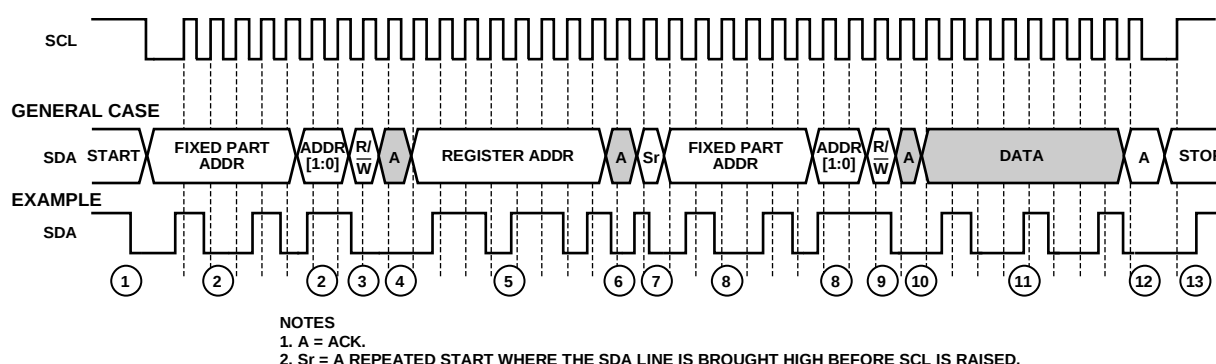

Figure 32. I²C Read Diagram
To read data from the ADN4600 register set, a microcontroller (or any other I²C master) needs to send the appropriate control signals to the ADN4600 slave device. Use the following steps, where the signals are controlled by the I²C master unless otherwise specified. A diagram of the procedure is shown in Figure 32.
- To read data from the ADN4600 register set, a microcontroller (or any other I²C master) needs to send the appropriate control signals to the ADN4600 slave device. Use the following steps, where the signals are controlled by the I²C master unless otherwise specified. A diagram of the procedure is shown in Figure 32.
3. Send the write indicator bit (0).
9. Send the read indicator bit (1).
- In Figure 32, the ADN4600 read process is shown. The SCL signal is shown, along with a general read operation and a specific example. In the example, Data 0x49 is read from Register Address 0x6D of an ADN4600 part with a slave address of 0x4. The part address is seven bits wide. The upper five bits of the slave address are internally set to b10010. The lower two bits are controlled by the ADDR[1:0] pins. In this example, the bits controlled by the ADDR[1:0] pins are set to b11. In Figure 32, the corresponding step number is visible in the circle under the waveform. The SCL line is driven by the I²C master, not by the ADN4600 slave. As for the SDA line, the data in the shaded polygons of Figure 32 is driven by the ADN4600, whereas the data in the nonshaded polygons is driven by the I²C master. The end phase case shown corresponds with Step 13.
- It is important to note that the SDA line only changes when the SCL line is low, except when a start, stop, or repeated start condition is being sent, as is the case in Step 1, Step 7, and Step 13. In Figure 32, Sr represents a repeated start where the SDA line is brought high before SCL is raised. SDA is then dropped while SCL is still high.
In Figure 32, the ADN4600 read process is shown. The SCL signal is shown, along with a general read operation and a specific example. In the example, Data 0x49 is read from Register Address 0x6D of an ADN4600 part with a slave address of 0x4B. The part address is seven bits wide. The upper five bits of the slave address are internally set to b10010. The lower two bits are controlled by the ADDR[1:0] pins. In this example, the bits controlled by the ADDR[1:0] pins are set to b11. In Figure 32, the corresponding step number is visible in the circle under the waveform. The SCL line is driven by the I²C master, not by the ADN4600 slave. As for the SDA line, the data in the shaded polygons of Figure 32 is driven by the ADN4600, whereas the data in the nonshaded polygons is driven by the I²C master. The end phase case shown corresponds with Step 13.
It is important to note that the SDA line only changes when the SCL line is low, except when a start, stop, or repeated start condition is being sent, as is the case in Step 1, Step 7, and Step 13. In Figure 32, Sr represents a repeated start where the SDA line is brought high before SCL is raised. SDA is then dropped while SCL is still high.